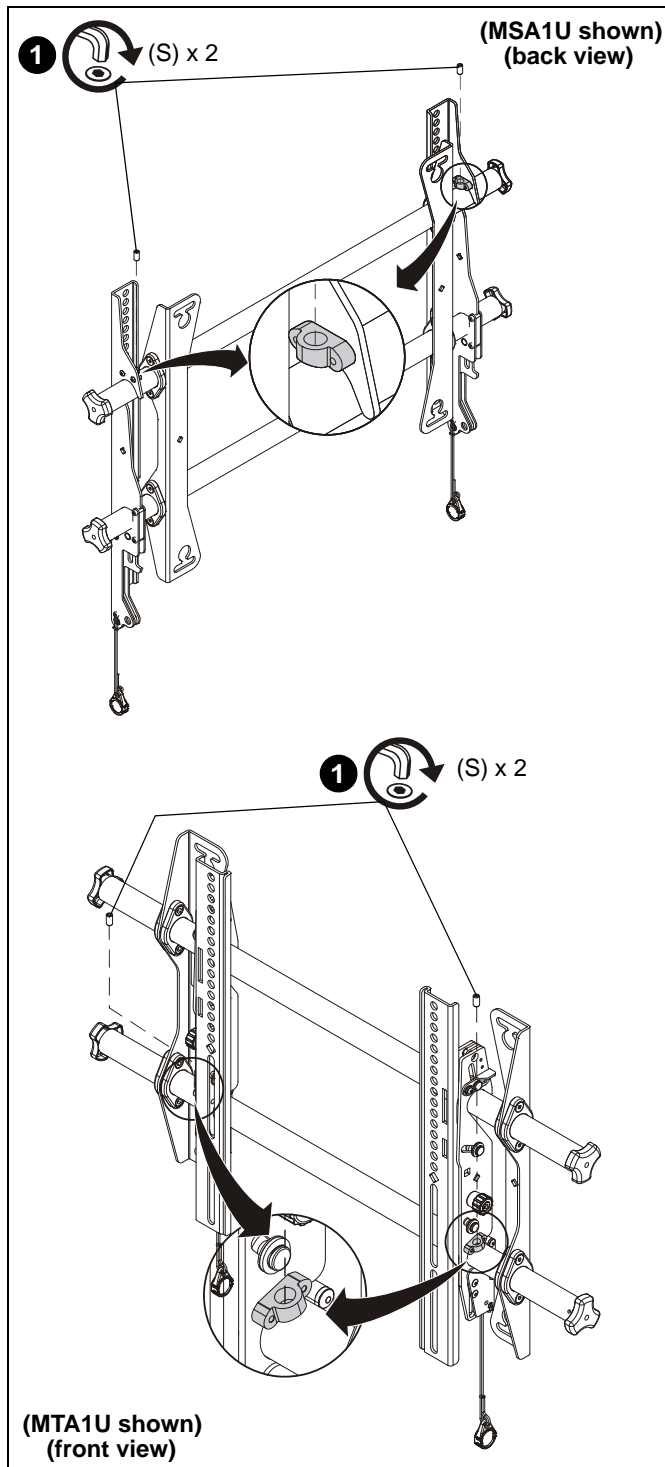

Figure 12
1. Lock screen interface brackets onto mount rails using one 3/8-16 x 3/4" set screw (S) on each interface bracket. (See Figure 12)